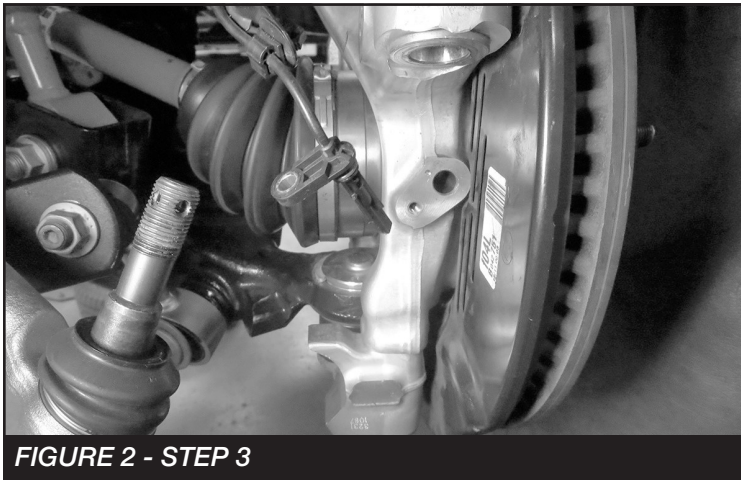

FIGURE 2 - STEP 3
3. Disconnect the wheel speed sensor from the knuckle. Save hardware. **SEE FIGURE 2**